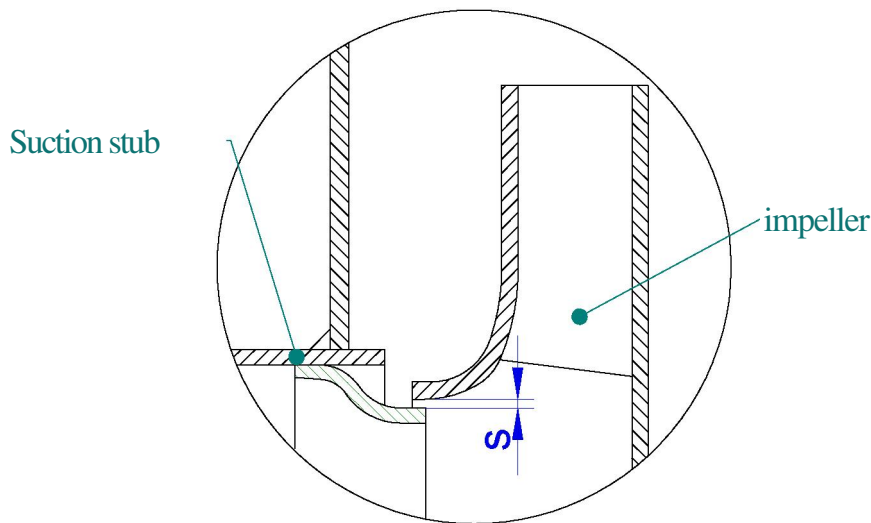

Figure 2. Entry gap
- check whether the impeller of a fan rotates freely without any friction against elements of fan's casing and whether relevant clearance is maintained – 's' dimension (Fig. 2)